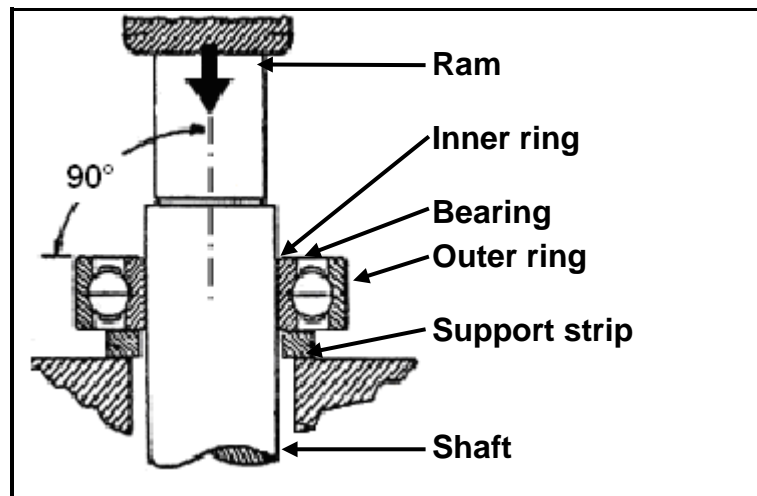

FIGURE 1.4
1.15 Which procedure for removing a bearing is shown in FIGURE 1.4 below?